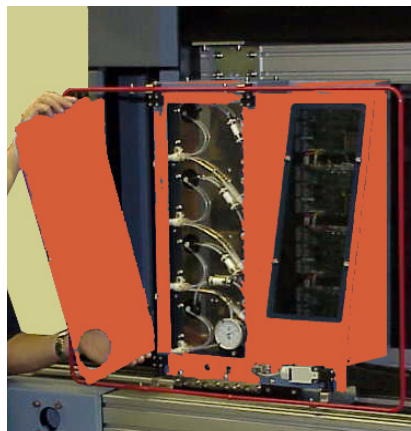

Figure 45. Removing Front Panel from Head Carriage Cover
3. With the head carriage parked in the *home* position, unscrew and remove the left panel on the *front* of the head carriage cover as shown in Figure 45.